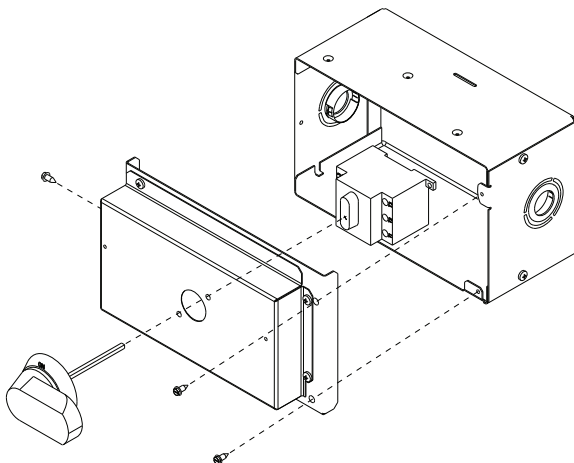

Fig. 29 — Handle and Shaft Assembly for NFD
2. Remove (3) hex screws on the NFD enclosure - (2) on the face of the cover and (1) on the left side cover. See Fig. 29.
10. Secure the handle to the painted cover with (2) screws and lock washers supplied.
11. Engaging the shaft into the handle socket, re-install (3) hex screws on the NFD enclosure.